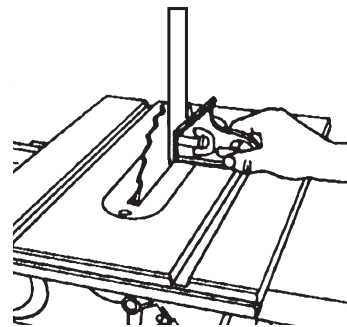

Figure 32
10. Place the Combination Square against both the Saw Blade and Worktable, as seen in Figure 32. Make sure the square's blade does not touch a saw tooth and does rest in a gullet between teeth.